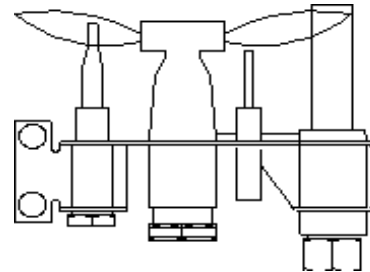

Figure 18. *Pilot Burner*. PSE NA/LP201 with ECO Thermocouple
2. Adjust pilot key to provide properly sized flame. (See figure 18).